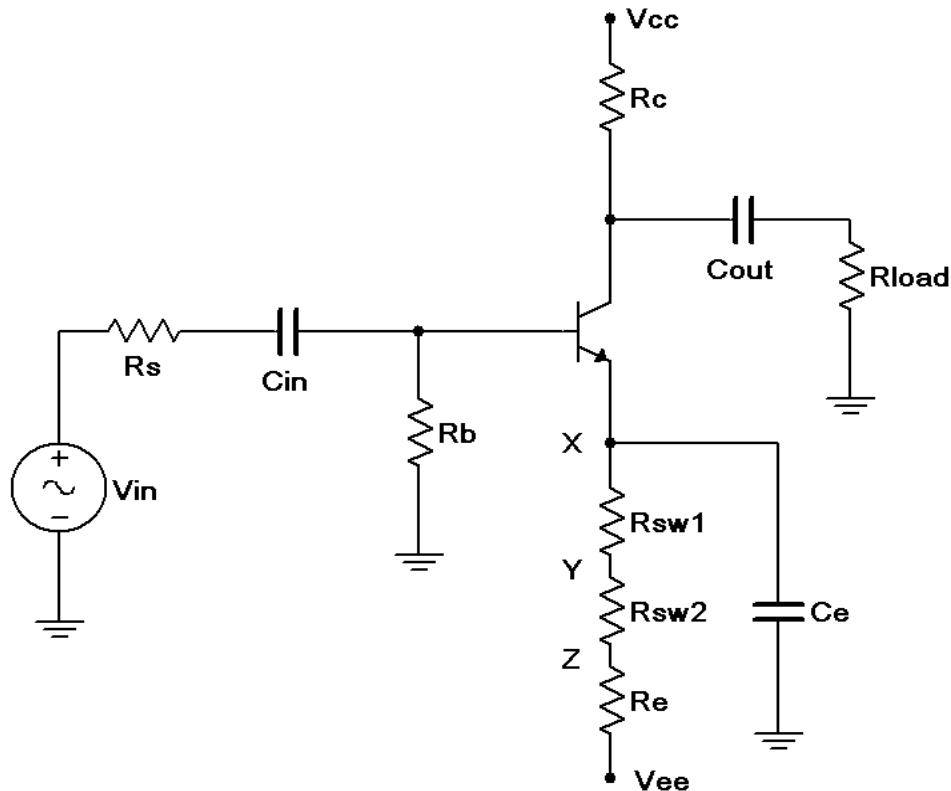

Figure 10.1
1. Consider the circuit of Figure 10.1 using  $V_{cc} = 15$  volts,  $V_{ee} = -12$  volts,  $R_s = 10$  k $\Omega$ ,  $R_b = 33$  k $\Omega$ ,  $R_e = 22$  k $\Omega$ ,  $R_{sw1} = 220$   $\Omega$ ,  $R_{sw2} = 1$  k $\Omega$ ,  $R_c = 15$  k $\Omega$ ,  $R_{load} = 20$  k $\Omega$ ,  $C_{in} = C_{out} = 10$   $\mu\text{F}$  and  $C_e = 470$   $\mu\text{F}$ . Using the approximation of a negligible DC base voltage, determine the DC collector current and  $r'_e$ , and record these in Table 10.1. Using the  $r'_e$ , calculate the expected  $Z_{in}$ ,  $Z_{in(base)}$ , and  $A_v$  for the X, Y and Z connection points for  $C_e$  (shown at position X in the schematic). Record these in Table 10.2. If a transistor curve tracer or beta checker is not available to get an approximate value of beta for the transistor, estimate it at 150.
2. Build the circuit of Figure 10.1 using  $V_{cc} = 15$  volts,  $V_{ee} = -12$  volts,  $R_s = 10$  k $\Omega$ ,  $R_b = 33$  k $\Omega$ ,  $R_e = 22$  k $\Omega$ ,  $R_{sw1} = 220$   $\Omega$ ,  $R_{sw2} = 1$  k $\Omega$ ,  $R_c = 15$  k $\Omega$ ,  $R_{load} = 20$  k $\Omega$ ,  $C_{in} = C_{out} = 10$   $\mu\text{F}$  and